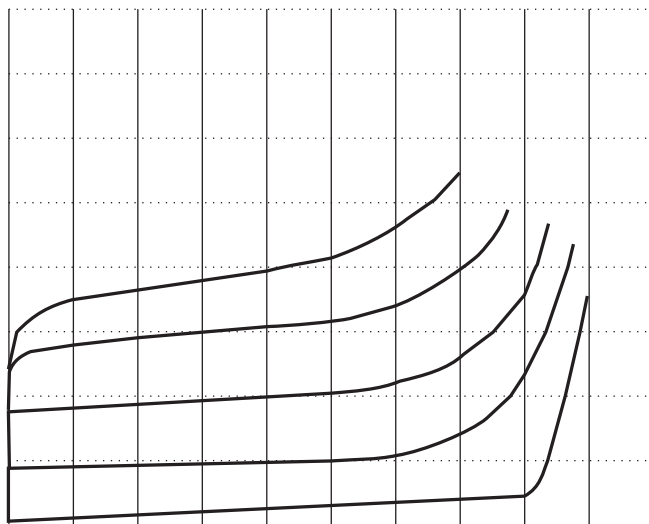

Figure 2
The maximum power is selected with buttons  $P_{max}$ . ②. The characteristic diagram is a hyperbola which trims the maximum values of current and voltage. If the limit values of the DUT are smaller than the testable limits of HM6042, the run of the hyperbola is visible (**Figure 2**).